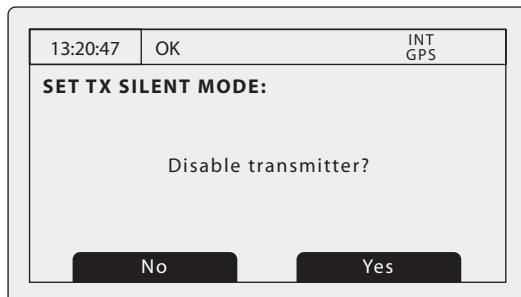

Figure 33 Silent mode entry confirmation screen
- Pressing the brightness control will enable or disable silent mode. When the brightness control is pressed a confirmation screen is shown before the transmitter is disabled or re-enabled. The confirmation screen is shown in Figure 33.